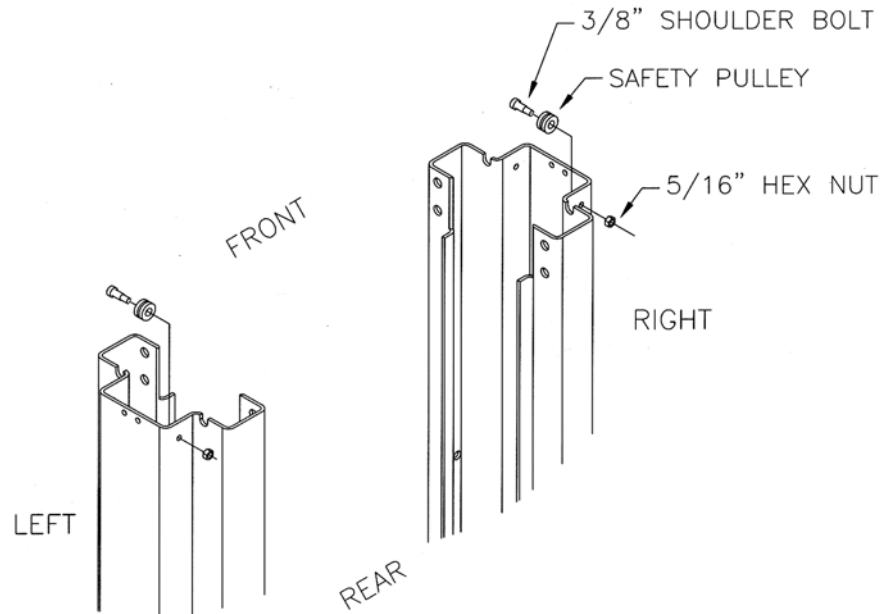

Figure 8 - Safety Release Pulley Installation
1. Install the safety pulley on each tower as shown in **Figure 8**. Attach the safety pulley to the tower using the 3/8" x 5/8" LG. shoulder bolt, 5/16" lockwasher and 5/16" hex nut.